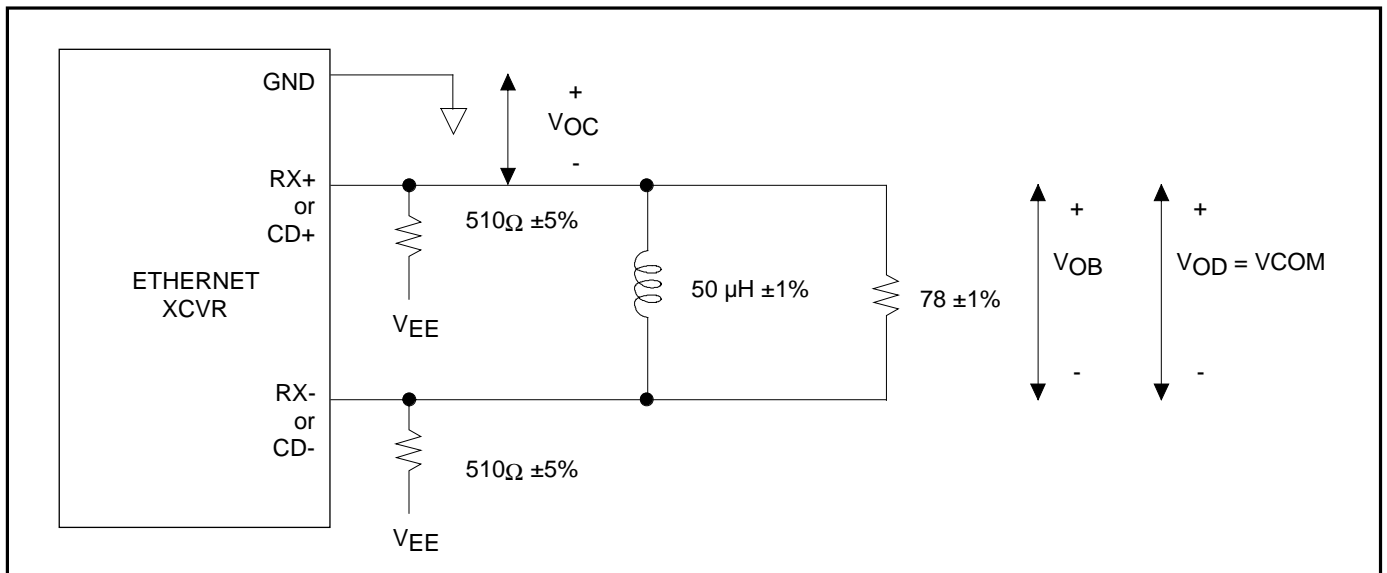

FIGURE 2: Test Load for  $CD_{\pm}$  or  $RX_{\pm}$
7. Test load as shown in Figure 2.